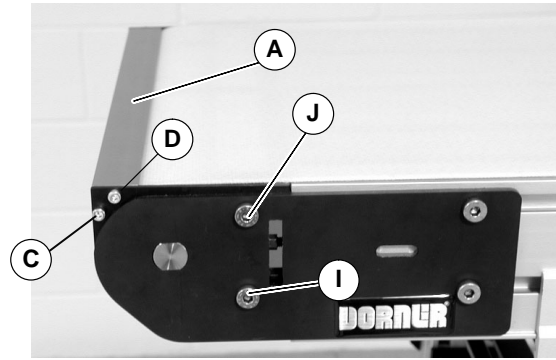

Figure 7
- Place transfer plate support (A of Figure 7) on end of conveyor and attach with screws (C) and (D) on each side of conveyor. Tighten screws (C and D) to 50 in-lbs (5.6 N-m).
- Tighten screws (I and J of Figure 7) to 146 in-lbs (16.5 N-m).